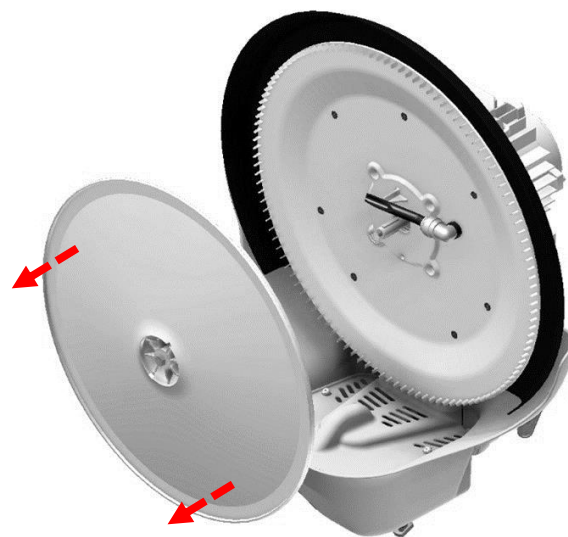

Fig. 4.4.4
- Use a screwdriver (hex. 13) to turn the screw, which will push the disc out effortlessly when it enters the hole. (Fig. 4.4.4)